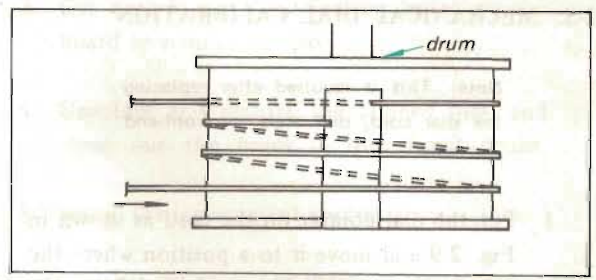

Fig. 2-7 Wrapping the dial cord
4. Run the cord over pulleys "B", "C" and "D" then wrap two clockwise turns around the drum from outer groove to inner groove as shown in Fig. 2-7.